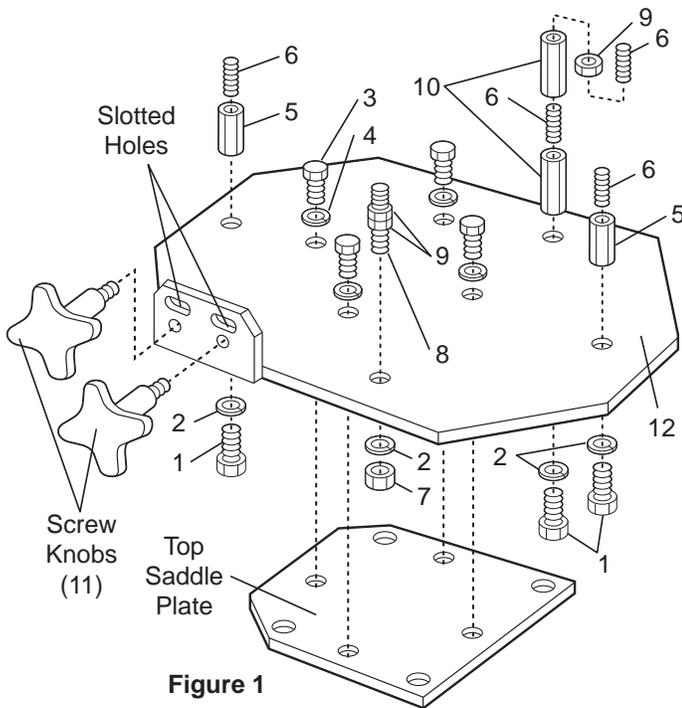

Figure 1
1. Secure the hex riser assembly (A) to the adapter plate assembly as shown in figure one.
2. Remove the four existing containing angle ears or any adapters that are bolted to the jack's top saddle plate. Secure the adapter plate assembly (index #12) to the jack's top saddle plate as shown in figure 1 with the index #3 bolts and index #4 flat washers provided.